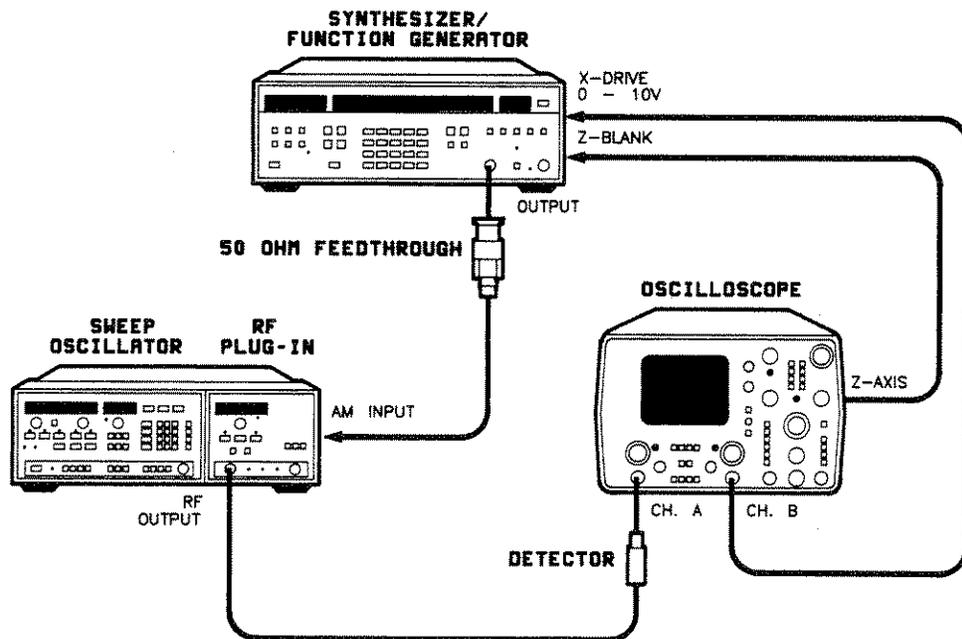

Figure 5-39. ALC Gain Adjustment Test Setup
1. Connect the equipment as shown in figure 5-39.